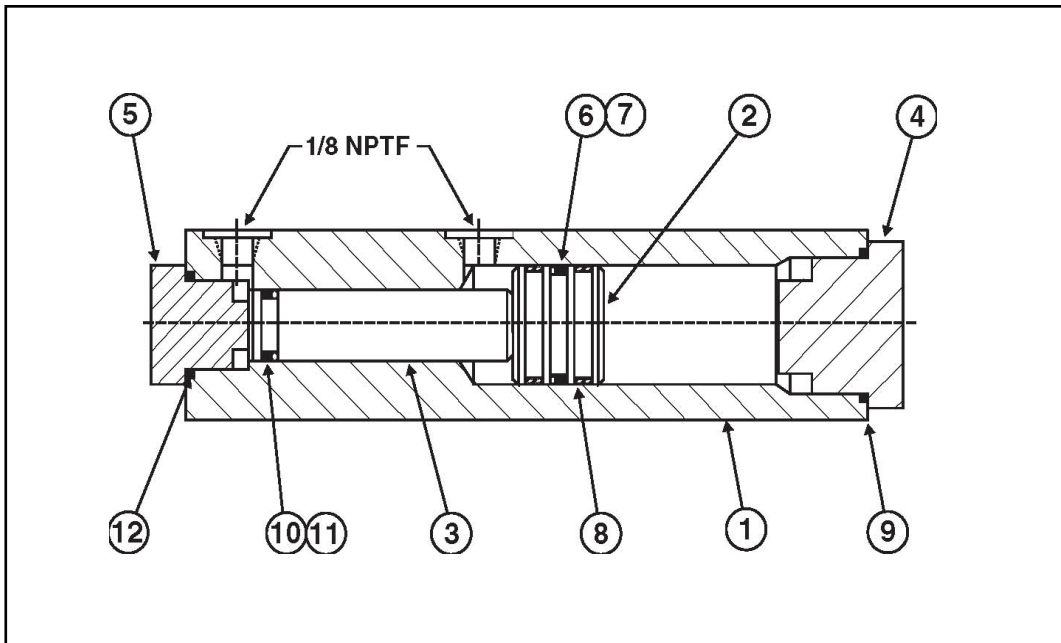

Figure 2: Cut-Away View of Dashpot
4. Place the Dashpot (item 1) in a vice.
5. Remove end caps (items 4 & 5) and o-rings (items 9 & 12), see Figure 2.
6. With a blunt object push piston stem (item 3) and piston (item 2) out of the Dashpot.
7. Remove wear rings (item 8), o-ring (item 6) and back-up ring (item 7) from the piston.
8. Remove o-ring (item 10) and back-up ring (item 11) from the piston stem.
1. Using o-ring grease install o-ring (item 10) and backup ring (item 11) on piston stem (item 3).
2. Grease piston stem and insert into Dashpot body (item 1) as seen in Figure 2.
3. Using o-ring grease install o-ring (item 6) and back-up ring (item 7) on piston (item 2).
4. Install wear rings (item 8) on piston (item 2).
5. Grease piston and insert into Dashpot body (item 1) as seen in Figure 2.
6. Using o-ring grease install o-rings (items 9 & 12) on end caps (items 4 & 5).
7. Install end caps (items 4 & 5) on Dashpot (item 1) and tighten.